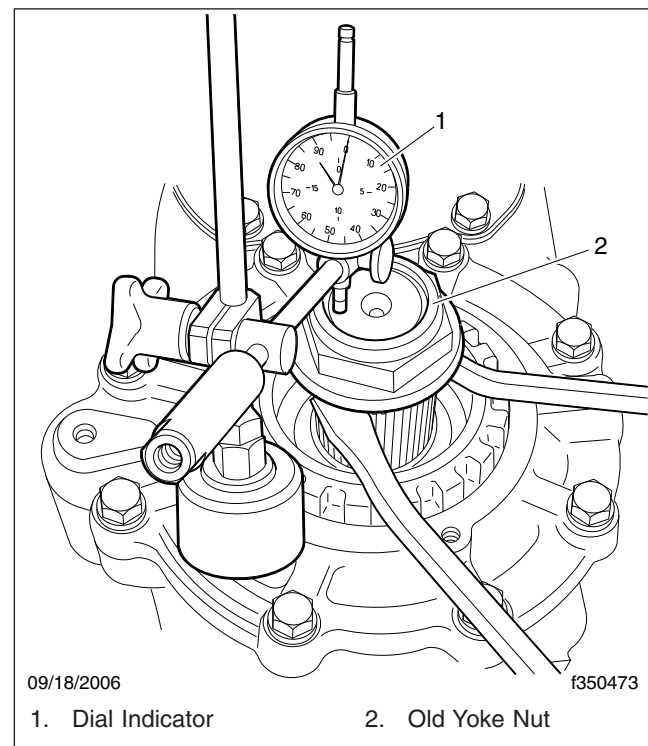

Fig. 4, Measuring Bearing Preload
- 10.1 Install a dial indicator on the bearing cage, and using two pry bars, pry up evenly on the yoke nut (and the input shaft) to determine the bearing preload. See Fig. 4.